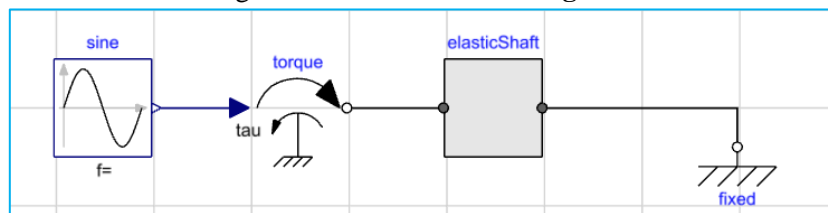

Figure 9 ElasticShaft with its components
- d. Connect them according to the schema below in **Figure 9**: